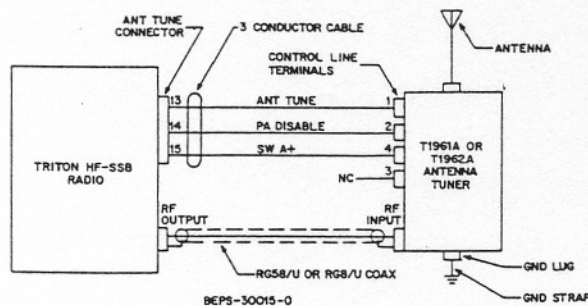

Figure 13. Electrical Block Diagram
3.6 COAXIAL CABLE (Refer to Figure 13.)